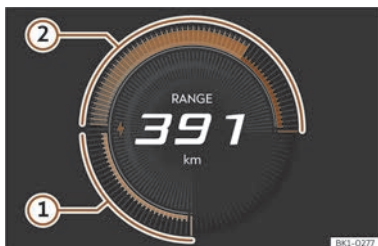

Fig. 3 On the digital instrument cluster: power display (schematic representation).
Using circular segments, the power indicator permanently shows the availability of brake energy recuperation >>> **Fig. 3 ①** (green) and the availability of propulsion >>> **Fig. 3 ②** (blue).